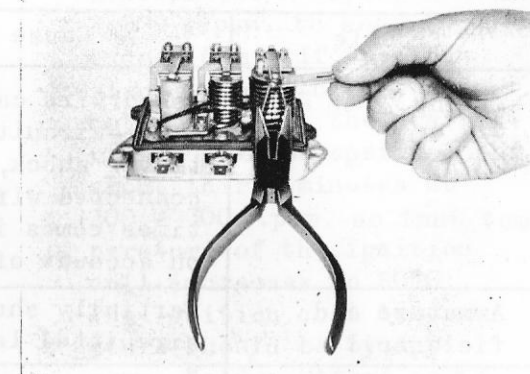

Fig. 10-65
(5) Adjust the point gap by adjusting the cut-out relay contactor. (See Fig. 10-65)
(6) Over-charging